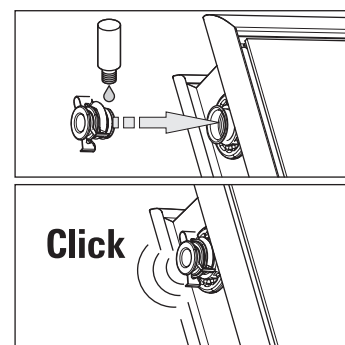

Fig. 3-40 Work step 18
18. Apply lubricant to the O-rings of the end plugs. Insert the end plugs into the open solar panel connection pipes until the retaining clamps click in place. (Fig 3-40).